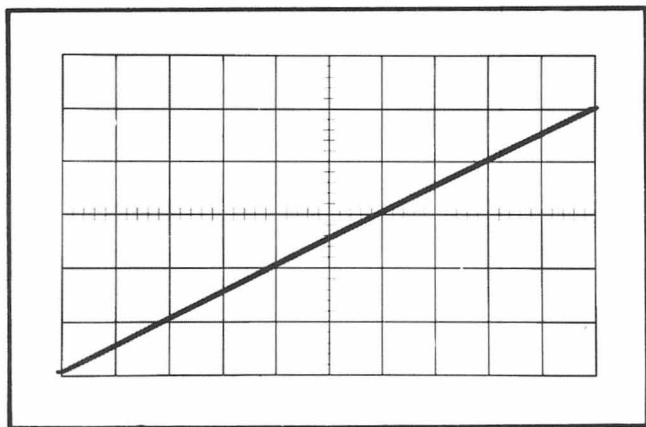

Fig. 6-7. Test oscilloscope display showing a 10-millisecond, one-volt sawtooth.
b. Adjust the A Time/cm Variable control and test fixture amplitude control for a ramp 10 centimeters long and 5 centimeters high. See Fig. 6-7. This represents a ten-millisecond sawtooth, one volt in amplitude, which will be used to sweep the Type 601.